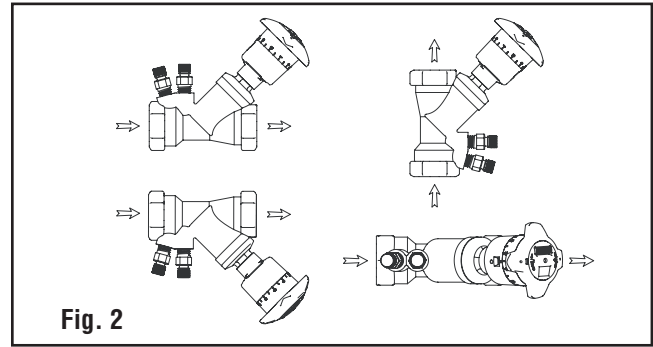

Fig. 2
- GBV's may be installed in horizontal or vertical piping (as illustrated in Fig. 2). Provisions must be made for easy access to the probe metering ports (PMP's), reading scale, and memory stop.